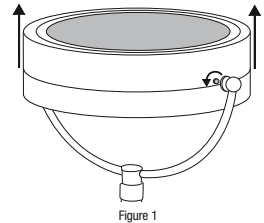

Figure 1
1. Unscrew screws from opposite sides of the mirror housing near the rotating hinges (Fig. 1).